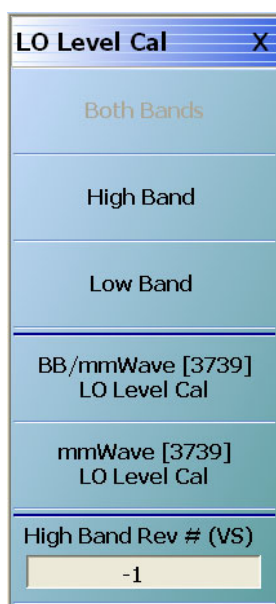

Figure 5-5. LO LEVEL CAL Menu
16. Select Src LO Level Cal and the LO Level Cal Menu appears as shown in Figure 5-5.